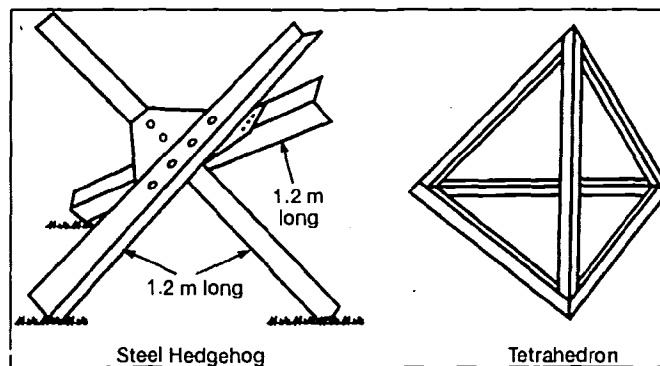

Figure 052-195-3066-13. Steel Hedgehog and Tetrahedron
- (1) Steel hedgehogs and tetrahedrons (figure 052-195-3066-13).
- (2) Concrete cubes and tetrahedrons (figure 052-195-3066-14).